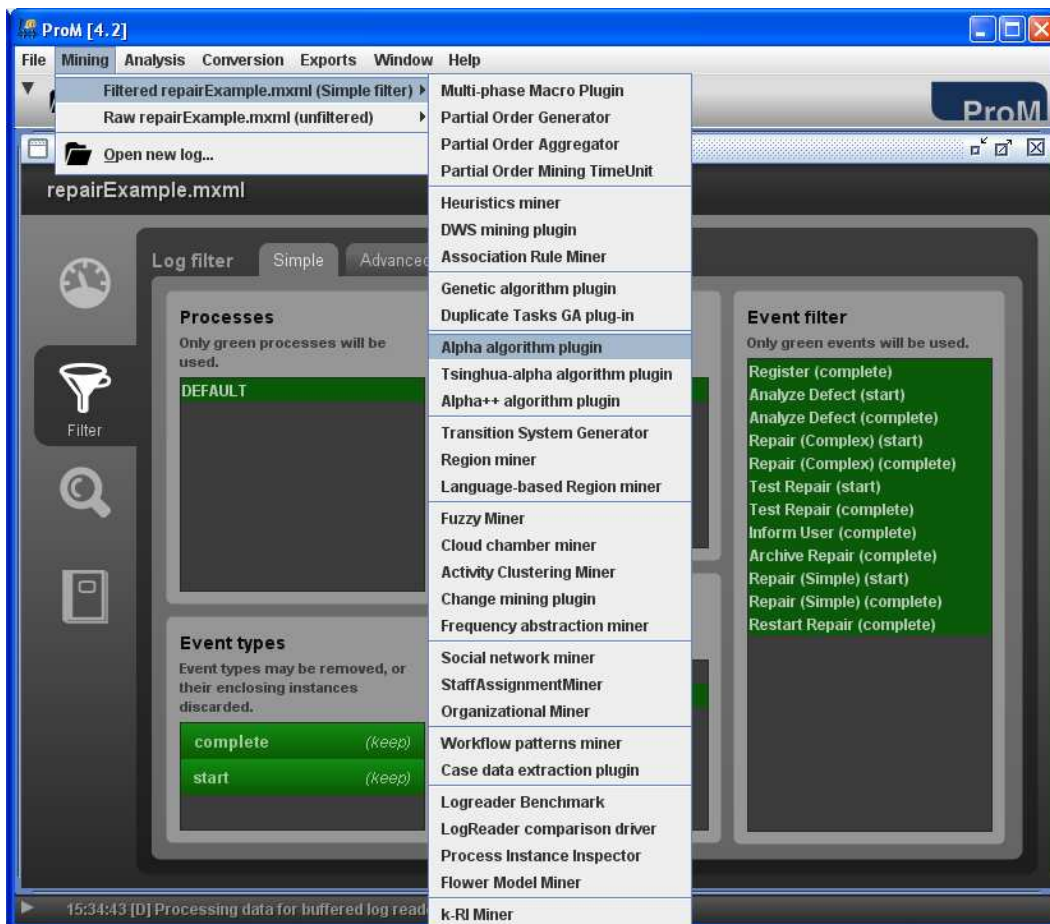

Figure 3.1: Screenshot of the mining plug-ins in ProM.
ProM supports various plug-ins to mine the control-flow perspective of process models, as shown in Figure 3.1. In this tutorial, we will use the
3. Run the *Alpha algorithm plugin* by choosing the menu *Mining*→[log name...]→*Alpha algorithm plugin* (cf. Figure 3.1).